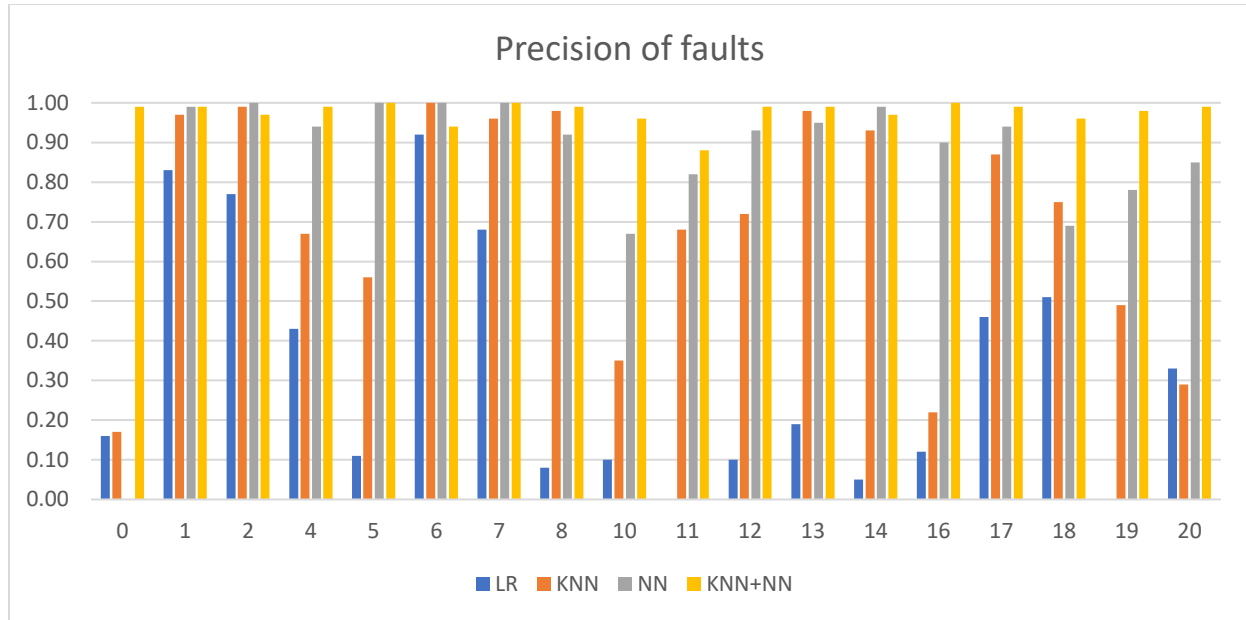

Figure 10 Precision matrix of LR, KNN, NN, KNN+NN
- For Logistic Regression (LR) model, it has lowest fault precision among all. Fault no 11 and 19 is not detect by the LR. Furthermore, fault number 5,8,10,12,14 also have lower precision than 15%. To detect the reason behind the LR failure, scatterplot was drawn between PC1 and PC2. From the figure it can interpreted that the data is highly non-linear. Therefore, the prediction of the data label from the test feature is not good. The scatter plot of PCA component of the fault 11 and 19 also plot for better understating of the data non-linearity withing the datapoint. The same reason for less precision to identification of fault 5,8,10,12,14. Hence, LR is not a good model for the TEP dataset we have taken.
- To overcome the KNN and NN limitation to detect the normal operating condition and improve the precision of the faults that we are lacking in these models, KNN assisted by NN (KNN+NN) model is used. It not only detects the normal condition dataset but also have exception precision with almost 1.00. Almost all the faults have the precision more than the 0.90 except the fault number 11. Even fault number 11 has also had the precision value of the 0.88 which is greater than KNN and NN both model precision of 0.67 and 0.82 respectively. From the figure 10. it can see that loss function can be reduce to 0.05 within the 10 Epochs. This can be reduced to less than 0.01 with more Epochs like 30. However, this can not only lead to computation expensiveness but also the overfitting of the data as accuracy is not changing significantly. Therefore, 10 Epochs are chosen for the model.